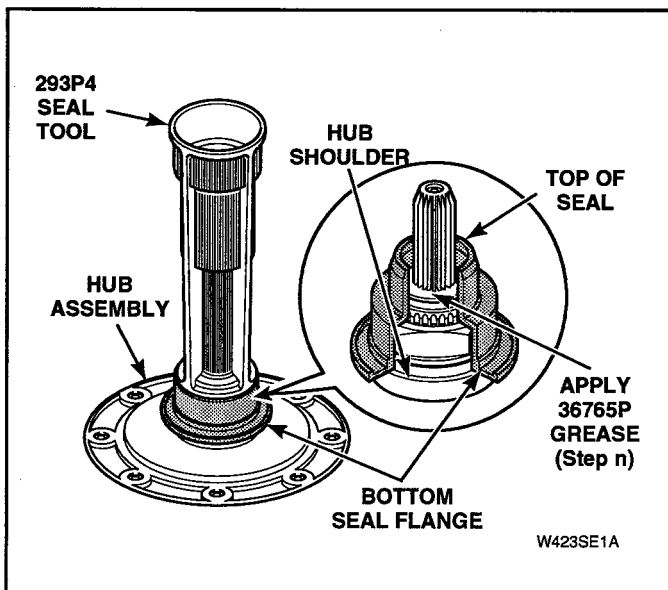

Figure 5-18
- Apply remainder of supplied grease, No. 36765P, to exposed surface of washer between transmission output shaft and seal. See Figure 5-18.
- p. Turn the No. 293P4 Seal Tool upside-down and place the small end over transmission output shaft and onto the seal. See Figure 5-18.
- q. Push down on tool with a quick motion until it bottoms out and the top of seal is fully seated. See Figure 5-18.